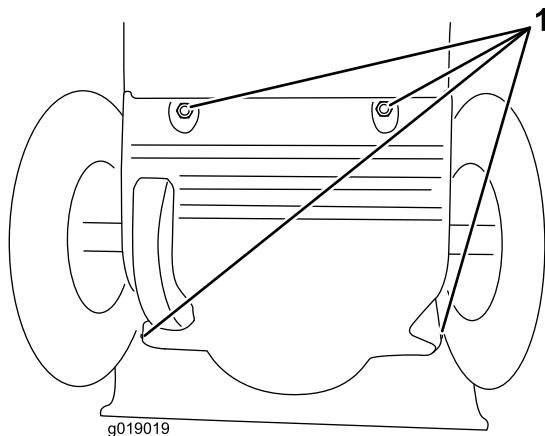

Figure 46
3. Remove the back cover (Figure 46).